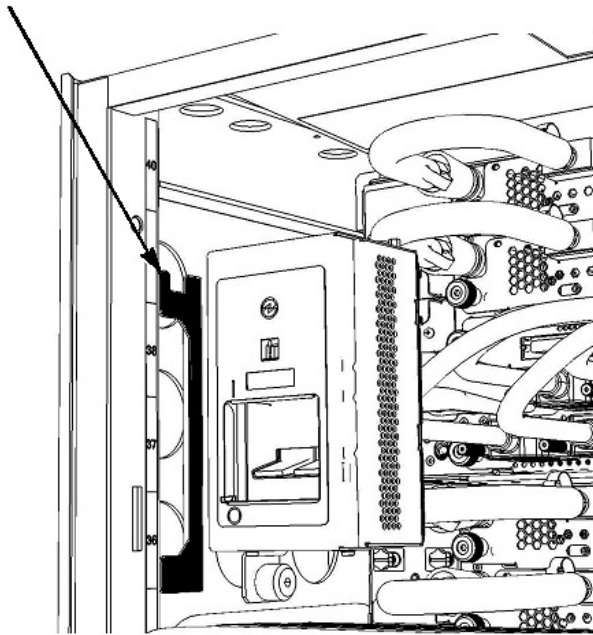

Figure 15: Frame UEPO Service Position
STEP 17 Place the UEPO in the “Frame UEPO Service Position” in the Rack (see Figure 15).